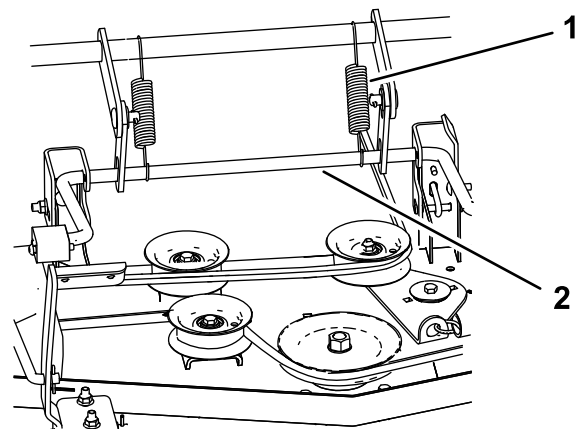

Figure 71
- 6. For 60-inch decks, install the 2 deck-lift springs (Figure 71).